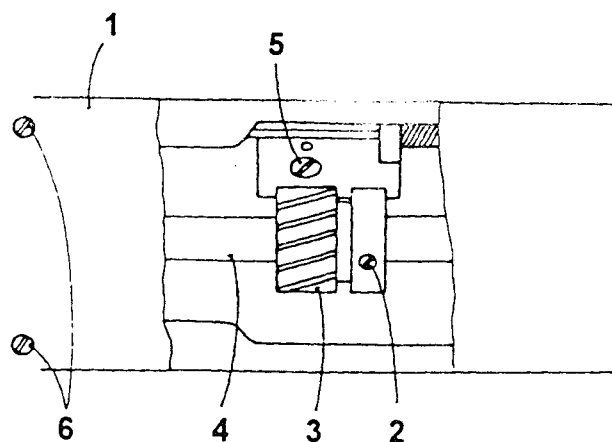
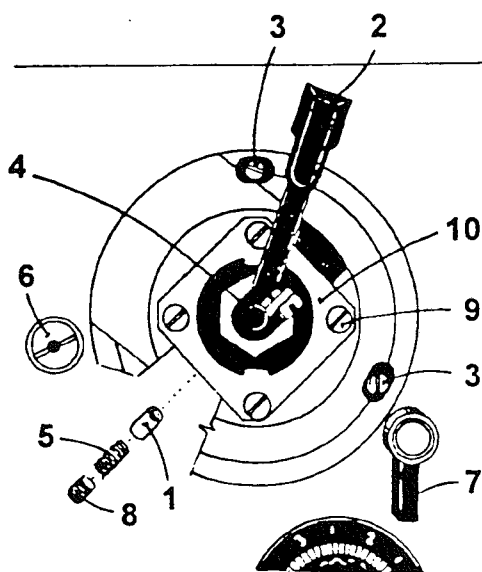
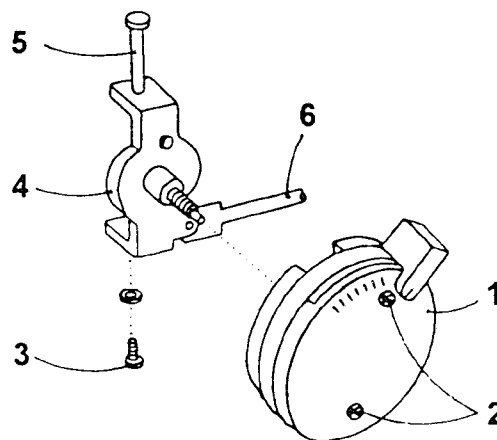

Fig. 11
Fig. 12
Fig. 13
**18. To adjust the needle bar lateral movement (Fig. 11)**
19. To adjust the control force required for stepless adjustment of the zigzag stitch width (Figs. 12, 13)
For the stepless tilting of the zigzag stitch bracket, the inlay (10, Fig. 12) of the body of the zigzag stitch mechanism contains the braking roller (1) with the spring (5) and with the adjustment screw (8). Turning the screw to the right increases the pressure exerted on the roller and, consequently, the force required to adjust the stitch width. A mechanism actuated by the lever (7) serving to fix the adjusted stitch width must be turned to the left prior to proceeding to the stitch width adjustment which is carried out by the lever (2) whose extreme left position, defined by a stop, produces the zero zigzag stitch width that can be increased up to 10 mm by displacing the lever to the right. The number marking on the cover (1, Fig. 13) shows the approximative stitch width value at each lever position. To adjust the control force, first take the complete zigzag stitch mechanism out of the machine arm column. For this purpose, screw out the two screws (2) from the body of the mechanism, remove the cover (1), screw out the three attachment screws (3, Fig. 12) from the body of the zigzag stitch mechanism, then screw out the securing screw (3, Fig. 13) on the pin (5), remove the pin from the guiding (4), loosen the fixing lever (7, Fig. 12) and take the pin (6, Fig. 13) out of engagement, thus releasing the body of the zigzag stitch mechanism that can be then taken out of the machine arm. For the assembly, proceed inversely.
20. To adjust the tooth play of the zigzag transmission mechanism (Figs. 11, 12)
The tooth play of the zigzag stitch transmission mechanism is actuated by the eccentric pin (6, Fig. 12). To adjust the tooth play, first screw out the four attachment screws (6, Fig. 11), remove the upper cover (1), and loosen the screw (5) located in the lug of the machine arm. By turning then the eccentric pin (6, Fig. 12) adjust the tooth play of the zigzag transmission mechanism, i. e., between the complete cam and the gear wheel (3, Fig. 11) mounted on the upper shaft (4), then lock the adjusted position by thoroughly tightening the screw (5).